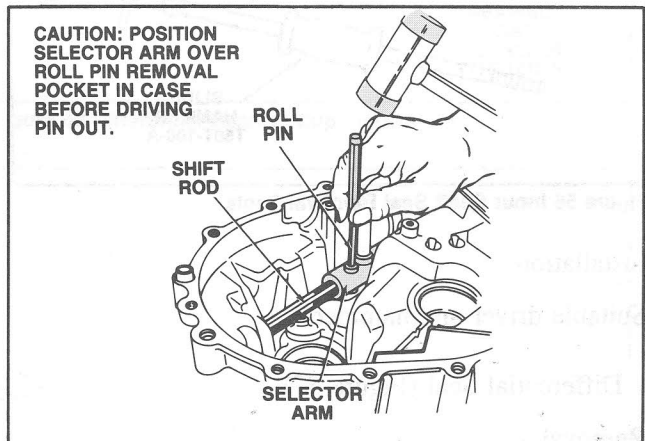

Figure 54 Roll Pin Removal
1. Remove the selector arm roll pin using a pin punch (Figure 54).